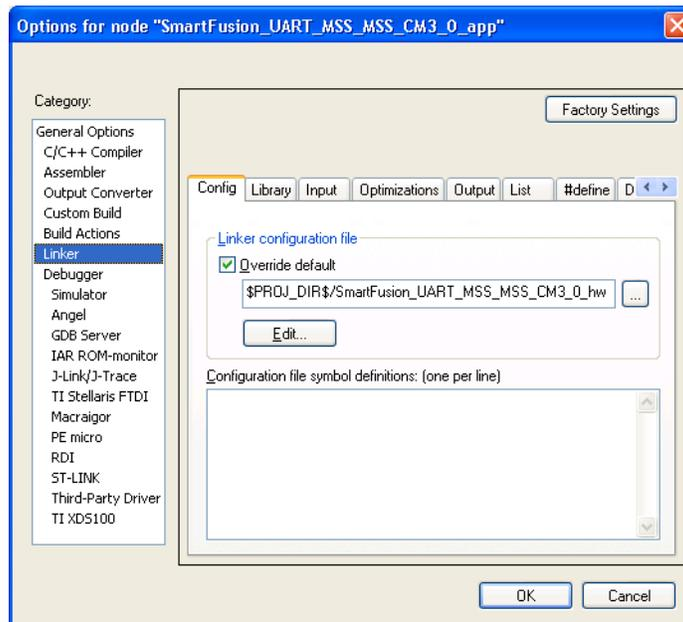

Figure 21 · Adding the Linker Configuration File
- Click **Linker** under **Category**, as shown in Figure 21 . . The Linker configure file (*SmartFusion_UART_MSS_MSS_CM3_0_hw_platform.icf*). Add the file, which is available at C:\Microsemiprj\UART_Libero_IAR\SmartFusion_UART\IAR folder by selecting the **Override default** check box. The *.icf file is a linker configuration file that defines the segmentation of memory.